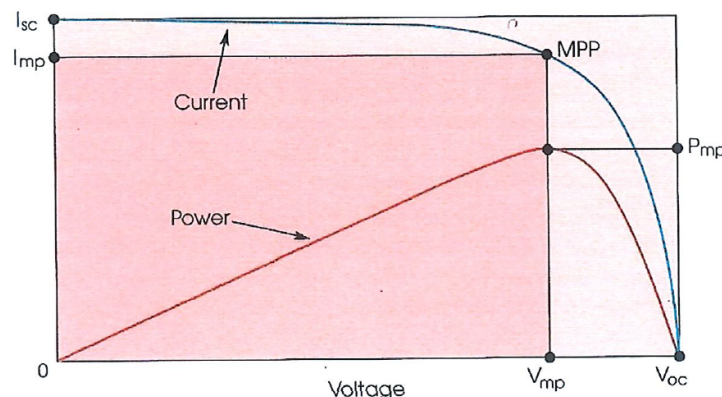

Figure 2.11 Current and power at standard insolation.
Fill Factor (FF) is a widely used measure of performance for PV cells. Consider Fig 2.11: